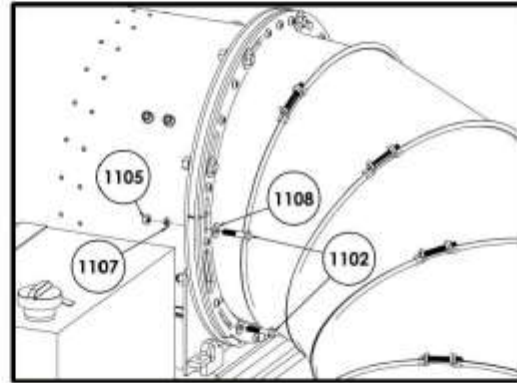

Figure 1 Nozzle Fully Mounted
3. Snug-tighten the remaining hardware to secure the nozzle to the blower at the locations shown in [Figure 1]. **Note:** The remaining hardware locations are